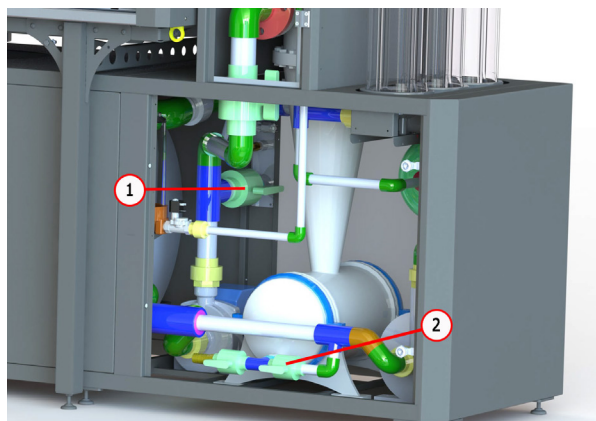

Figure 49
2. Open valves 1 and 2 (see Fig. 49).
5. Close valves 1 and 2 (see Fig. 49).